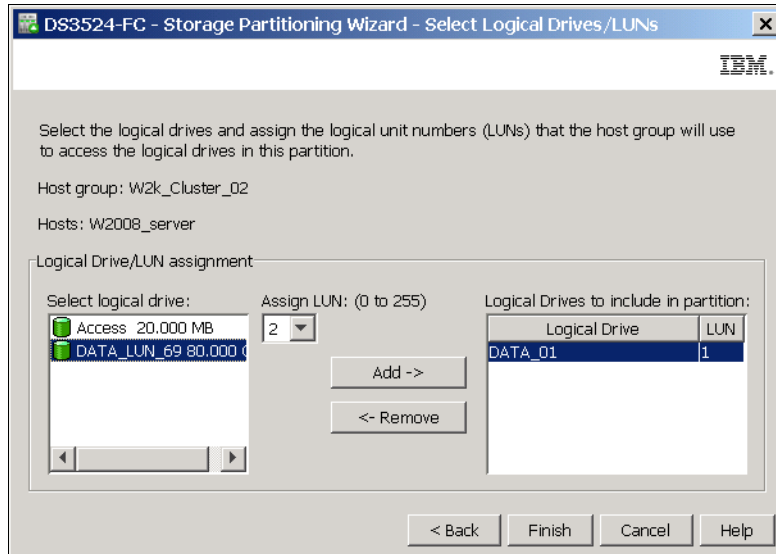

Figure 11-16 Storage Partitioning - select logical drives/LUNs
3. The next window (Figure 11-16 on page 288) allows you to select the logical drives that are going to be mapped to the host or the host group. Specify a LUN number that will be assigned to selected logical drive and click **Add**. This LUN number is visible as identification in operating system of mapped host. The Access logical drive as shown in